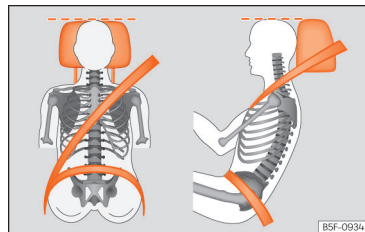

Fig. 18 Correct belt web and headrest positions
your head and under no circumstances below eye level. Keep the back of your neck as close as possible to the headrest >>> Fig. 18.
- Adjust the seat lengthwise so that you can fully step on the pedals with your knees slightly bent and there is a distance between the knee area and the instrument panel of at least 10 cm (4 inches) >>> Fig. 18.